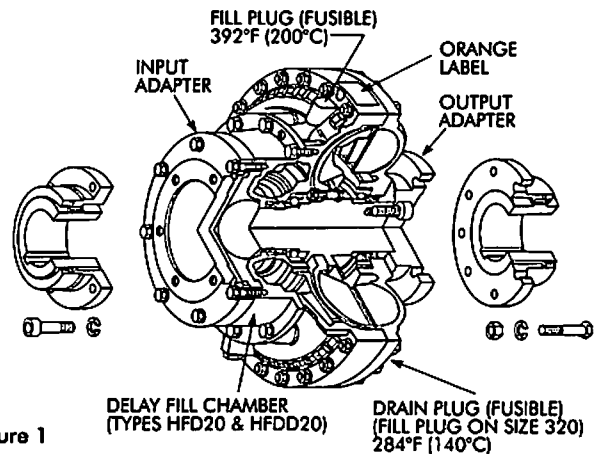

Figure 1
- The fluid coupling is shipped with input and output adapters assembled as shown in Figure 1, Page 1. NOTE: Size 185 does not require input adapter as gear coupling sleeve is fastened directly to the fluid coupling.